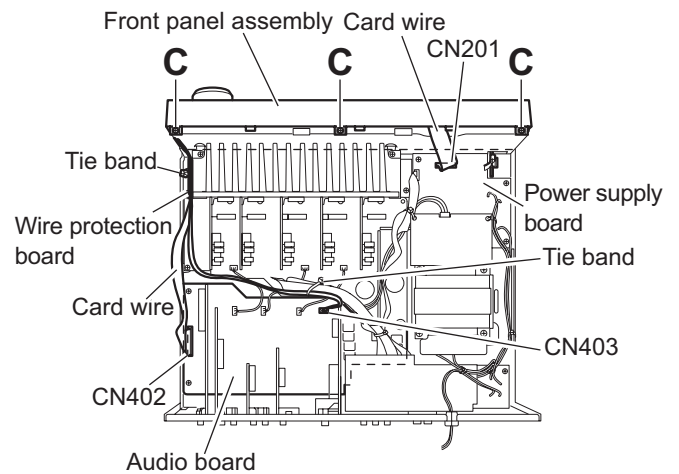

Fig.2
2.2 Removing the front panel assembly (See Figs.2 and 3)
- (1) Disconnect the card wire from the connector CN402 on the audio board. (See Fig.2)
- (2) Disconnect the card wire from the connector CN201 on the power supply board. (See Fig.2)
- (3) Remove the tie band and wire protection board fixing the card wire. (See Fig.2)
- (4) Remove the tie band fixing the parallel wires, disconnect the parallel wire from the connector CN403 on the audio board. (See Fig.2)
- (5) Remove the three screws **C** attaching the front panel assembly. (See Fig.2)